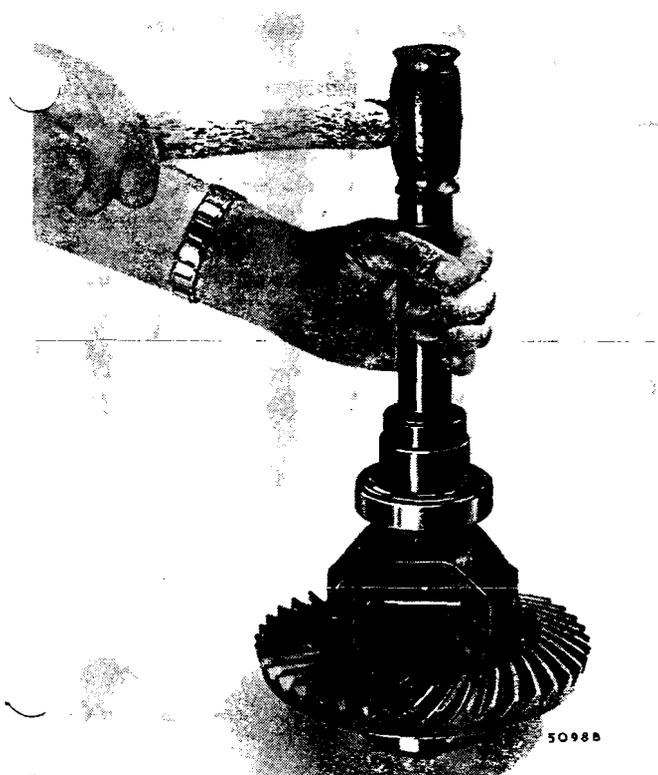

Fig. F.17
- (12) When the alignment is correct, lock the crown wheel set bolts in position by turning up the tabs of the locking plates.
- (13) Drive the differential bearings onto the differential housing bosses, with their thrust faces outwards, using tools 18G134 and 18G134K (Fig. F.17). Place the selected spacer of the correct thickness, calculated as previously described, against each bearing outer race, and position the differential assembly and spacers in the carrier, meshing the crown wheel and pinion. Replace the bearing caps